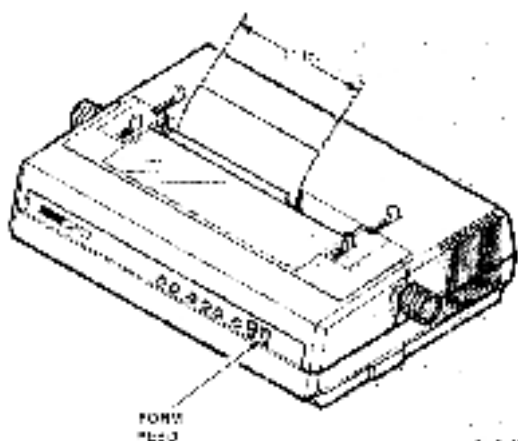

Figure 1-2 Form Feed Switch
1. Press the form feed switch once (Figure 1-2).